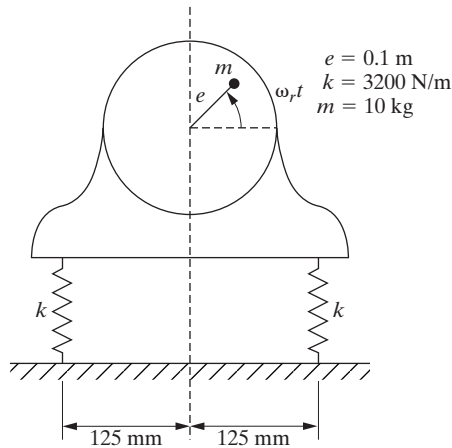

Figure P2.63 A vibration model for an electric motor with an unbalance.
- 2.63.** An electric motor (Figure P2.63) has an eccentric mass of 12 kg (12% of the total mass of 100 kg) and is set on two identical springs ($k = 3000$ N/m). The motor runs at 1800 rpm, and the mass eccentricity is 100 mm from the center. The springs are mounted 250 mm apart with the motor shaft in the center. Neglect damping and determine the amplitude of the vertical vibration.
- 2.64.** Consider a system with rotating unbalance as illustrated in Figure P2.63. Suppose the deflection at 1800 rpm is measured to be 0.05 m and the damping ratio is measured to be $\zeta = 0.1$. The out-of-balance mass is estimated to be 10%. Locate the unbalanced mass by computing e .